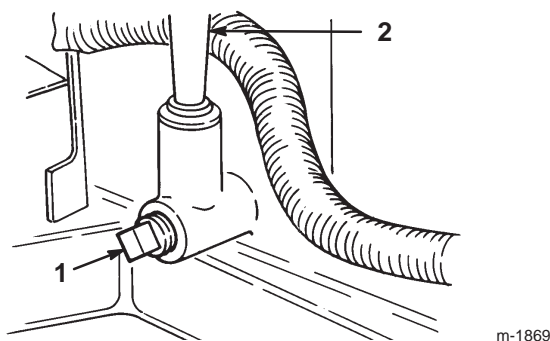

Figure 15
- Place a drain pan below the oil dipstick/fill hole and remove the drain plug (Fig. 15).